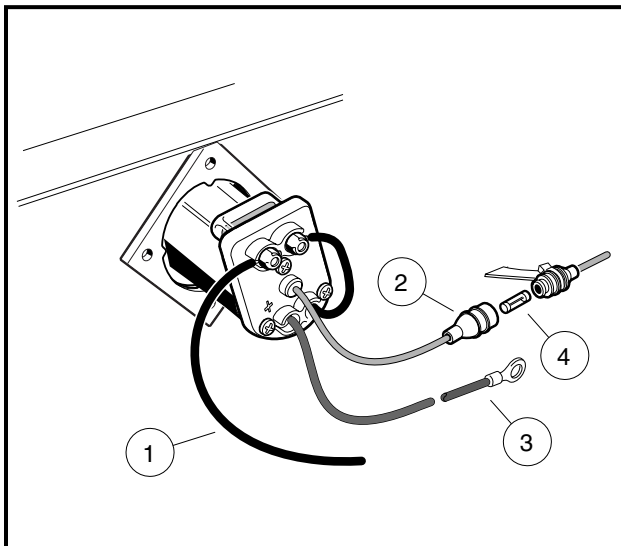

Figure 4-5 PowerDrive Charger Receptacle
8. Remove all wires from the terminal block (1) located on the driver side of the center body assembly. **See following NOTE.**
10. Remove the lock nut that connects the black wire (1) to the charger receptacle (**Figure 4-5, Page 4-5**).
11. Disconnect the yellow fuse holder (2) from the wire harness.
12. Remove the 10-gauge red wire (3) from the large solenoid post.
6. Tighten the nut securing the 10-gauge black wire (1) to the charger receptacle to 23 in-lb (2.6 N-m) (**Figure 4-5, Page 4-5**).
8. Remove the lock nut that connects the black wire (1) to the charger receptacle (**Figure 4-5, Page 4-5**).
9. Disconnect the yellow fuse holder (2) from the wire harness.
10. Remove the 10-gauge red wire (3) from the positive post of battery no. 1.